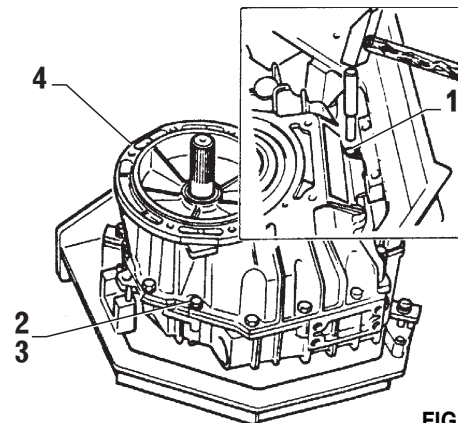

FIG. 5-7a
- b) Using a adequate drift punch, drive the parallel pins (item 1, Fig. 5-7a) with slight blows out of the housing
- c) Loosen hex bolts (item 2 and 3) with lockwashers (item 4, Fig. 5-7a) and remove input side of housing (item 5, Fig. 5-7a)